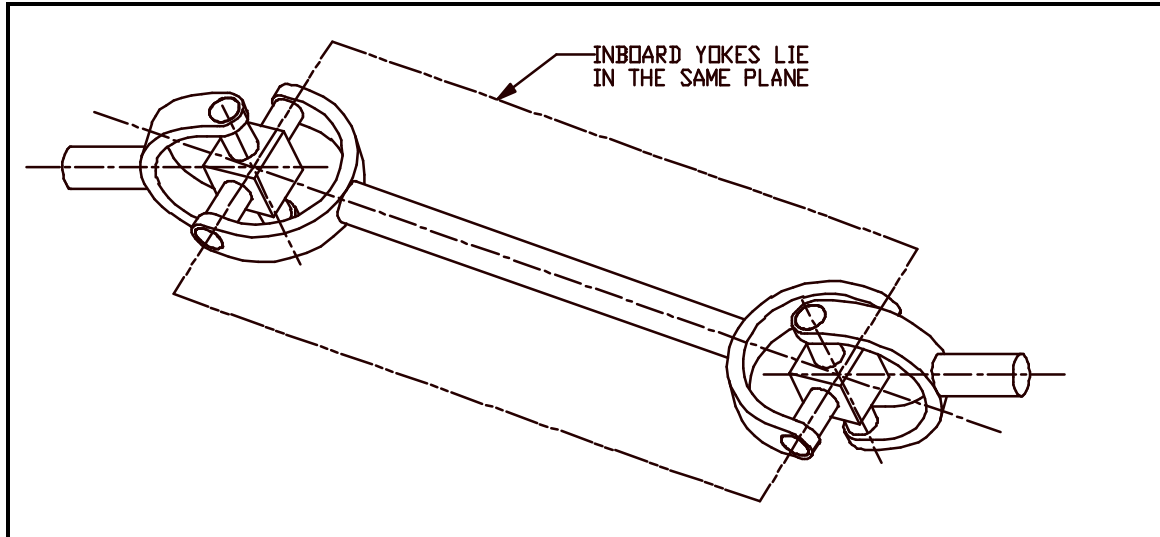

Figure 4.3
- 4.1 Partial disassembly is usually required, take note of the matchmarks when specified on the Sales Drawing and end to end alignment of the yokes. Occasionally, because of size or customer's preference, the flange adapters are not assembled to the universal joints. Check the assembly and Ameridrives Sales Drawing for matchmarks or other markings pertinent to the assembly. Unless otherwise specified on the Ameridrives Sales Drawing, it is important **that the yokes at each end of the intermediate shaft assembly be in the same plane. See Figure 4.3.** Therefore, it is necessary to refer to the Ameridrives Sales Drawing prior to and during installation for parts identification and specific set-up dimensions.
CAUTION: YOKES AT EACH END OF THE INTERMEDIATE SHAFT MUST BE IN THE SAME PLANE. SEE FIGURE 4.3.